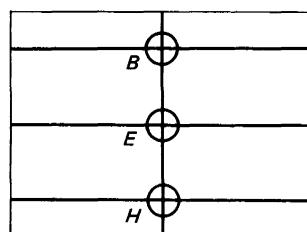

Fig. 3-33
- (8) When the red horizontal lines do not coincided with the green horizontal lines as shown in Fig. 3-33, repeat above steps (5) through (7).